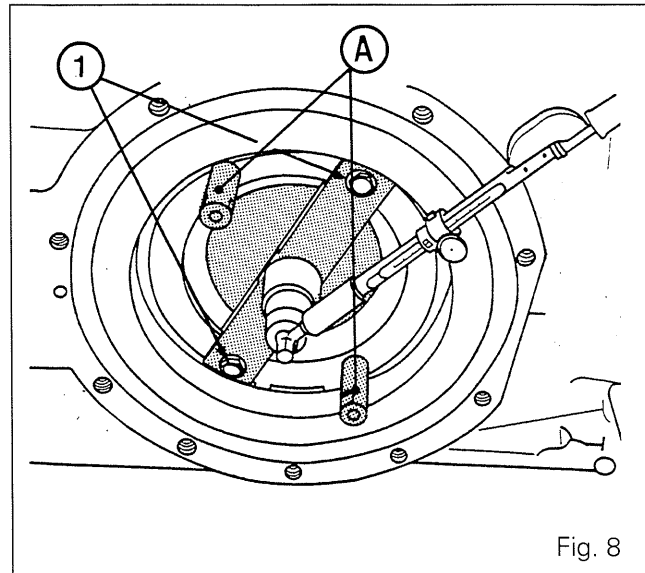

Fig. 8
54. Screw in two diametrically opposed guide studs and fit the right-hand carrier (14).
56. Remove the bearing cup (12) and the deflector shim [11] from the carrier (2). Place the bearing cup on the bearing cone (28).
57. Fit tool 3376847M91 on the housing with two bolts (1) tightened to a torque of 85 to 130 Nm (Fig. 8).
59. Fit the round calibrated spacers A in the other two holes and tighten them moderately (Fig. 8). Check that they are in contact with the housing.